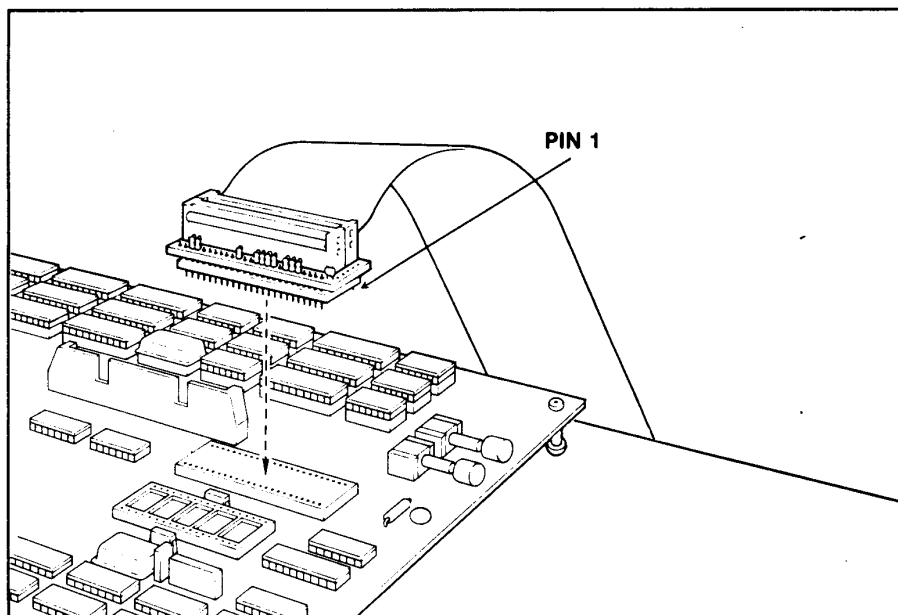

Figure 2-6.
4. With target system power off, remove the target system micro-processor from its socket and plug in the DIP header, as shown in Figure 2-6.